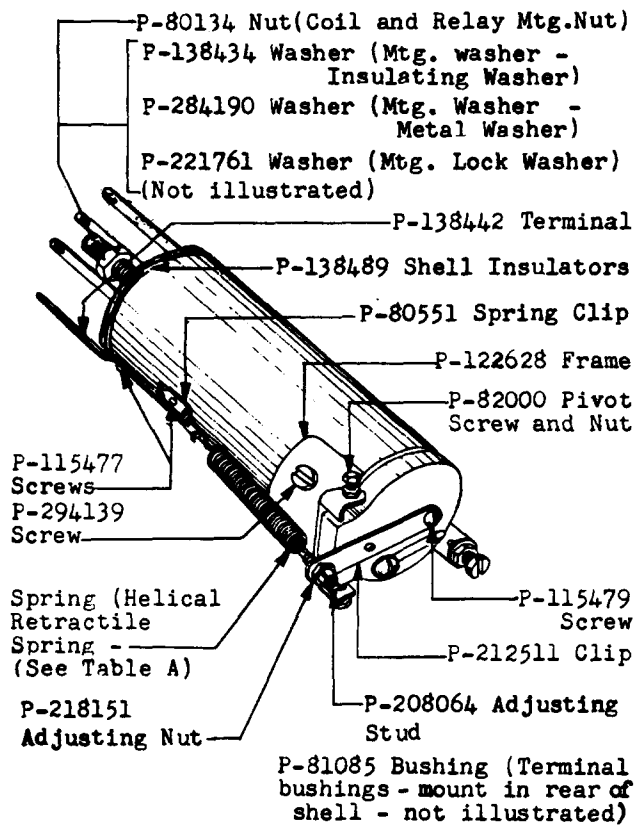
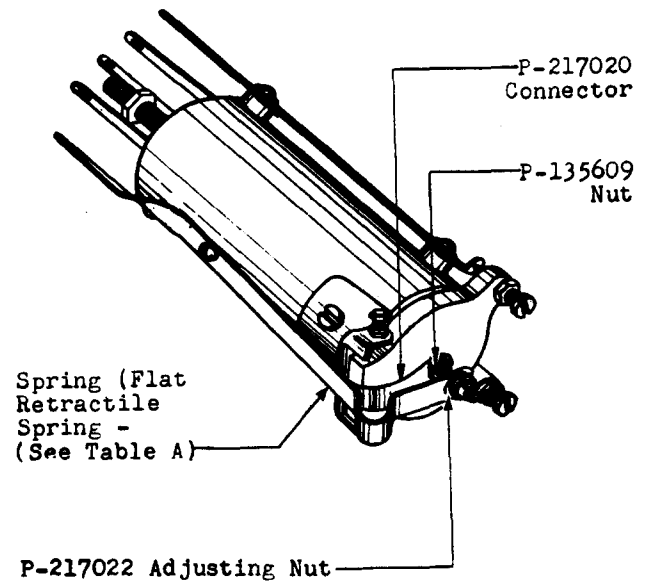

Fig. 5 - Helical-type Retractable Spring
Fig. 6 - Flat-type Retractable Spring
1. Piece part P-219439 covers the flat-type retractile spring illustrated in Fig. 6. All other piece parts specified are helical-type retractile springs illustrated in Fig. 5.
2. When replacing the retractile spring or armature on a relay equipped with a helical-type retractile spring and the piece-part information in the table specifies P-219439 retractile spring for the relay, replace the retractile spring and armature by the parts specified in the table and also replace the parts listed in Fig. 6.